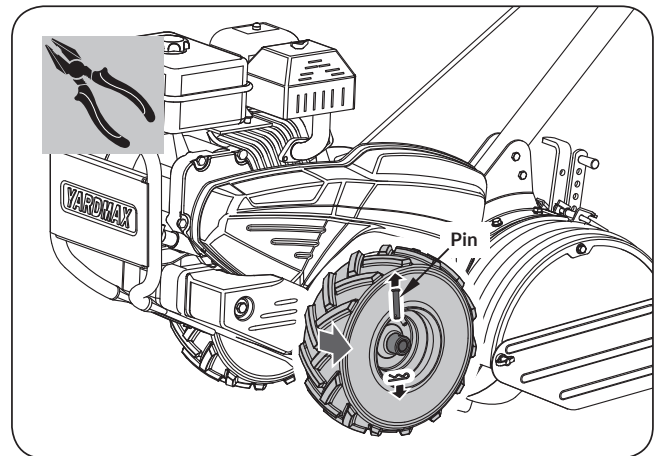

Figure 12a
1. Securely prop the machine up so that the wheel on the opposite side of the engine is 1 inch off the work surface. Remove the shear pin and wheel from belt guard side of the machine, opposite side of the engine. (See **Figure 12a**)